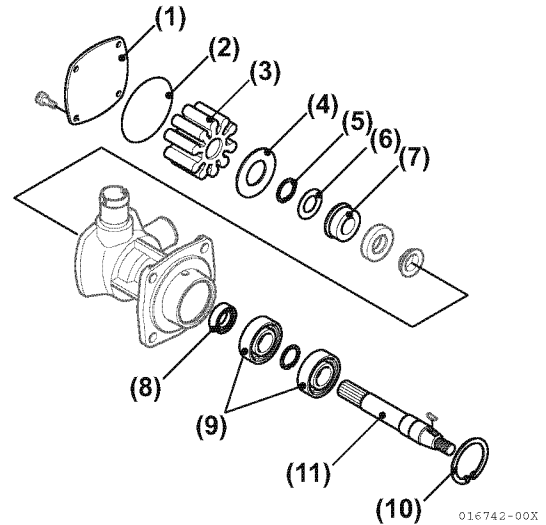

Figure 7-35
4. Remove four bolts, side cover (Figure 7-35, (1)) and O-ring (Figure 7-35, (2)).
5. Remove the impeller (Figure 7-35, (3)) and wear plate (Figure 7-35, (4)) from the housing.
6. Remove retainer, washer and mechanical seal (Figure 7-35, (5), (6), (7)).
7. Using pliers from drive gear side, remove retainer (Figure 7-35, (10)) which holds bearings (Figure 7-35, (9)).
8. Lightly tap pump shaft from impeller side and remove shaft and bearings as a set (Figure 7-35, (11), (9)).
9. Remove lip seal (Figure 7-35, (8)) and mechanical seal if necessary.
Note: When installing the new impeller, rotate the impeller clockwise to bend the vanes in the direction of rotation (Figure 7-35, (3)).
- 15. Install a new O-ring (**Figure 7-35, (2)**) and hold it in the groove using petroleum jelly.